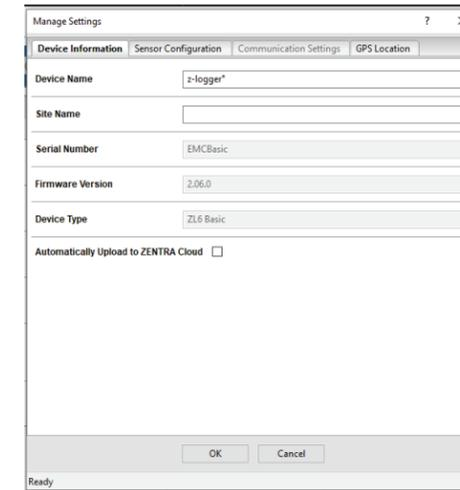

Figure 3 Device Information tab
- Navigate to the Device Information tab (Figure 3).